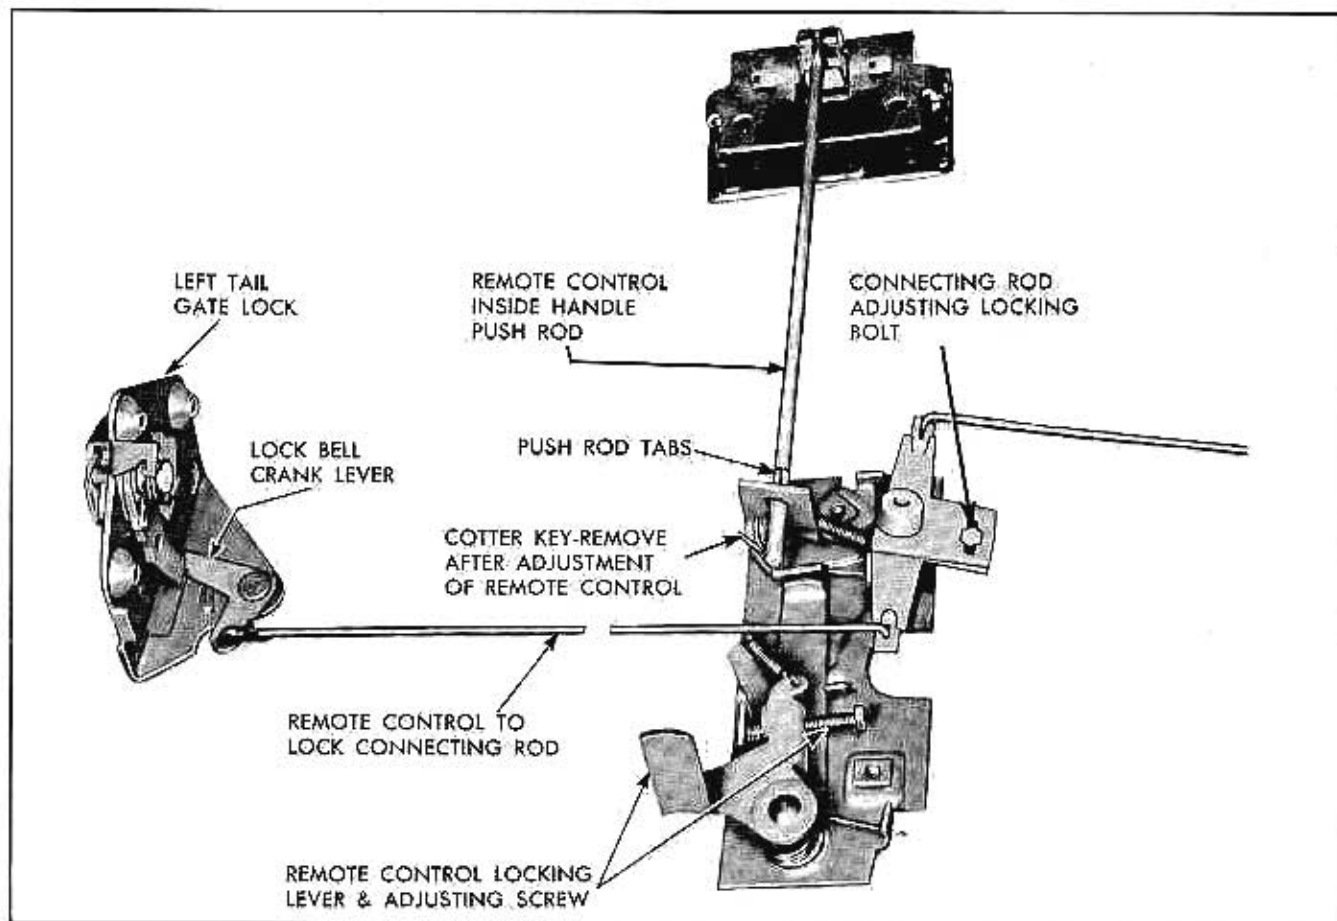

Fig. 4-26 Tail Gate Lock and Remote Control
3. Disengage spring clip and detach lock remote control connecting rod from lock remote control (Fig. 4-26).
To attach lock connecting rod to remote control lever, first, loosen connecting rod adjustment locking bolt at remote control (Fig. 4-26); then, install rod to lever and tighten locking bolt.
NOTE: To engage end of handle push rod into hole in remote control lever, it may be necessary to raise window in tail gate to gain access to lever. Adjust remote control upward until tabs on handle push rod (Fig. 4-26) just contact remote control lever.
2. Disengage clips securing lock connecting rods to remote control (Fig. 4-26) and detach connecting rods from remote control.
2. Adjust remote control assembly up or down until tabs on push rod (Fig. 4-26) just contact remote control lever.
3. To attach lock connecting rods to remote control lever, first, loosen connecting rod adjustment locking bolt (Fig. 4-26); then, install rods to levers and tighten locking bolt.
IMPORTANT: If installing a new remote control assembly, remove cotter key (Fig. 4-26) after adjustment to free locking lever.
6. Lower window to approximately $\frac{1}{2}$ inch up from full down position; then adjust remote control locking lever adjusting screw (Fig 4-26) so that lever is just contacting window lower sash channel frame. Check operation of remote control inside handle—handle should remain locked until window is lowered to within $\frac{1}{4}$ inch of the full down position.